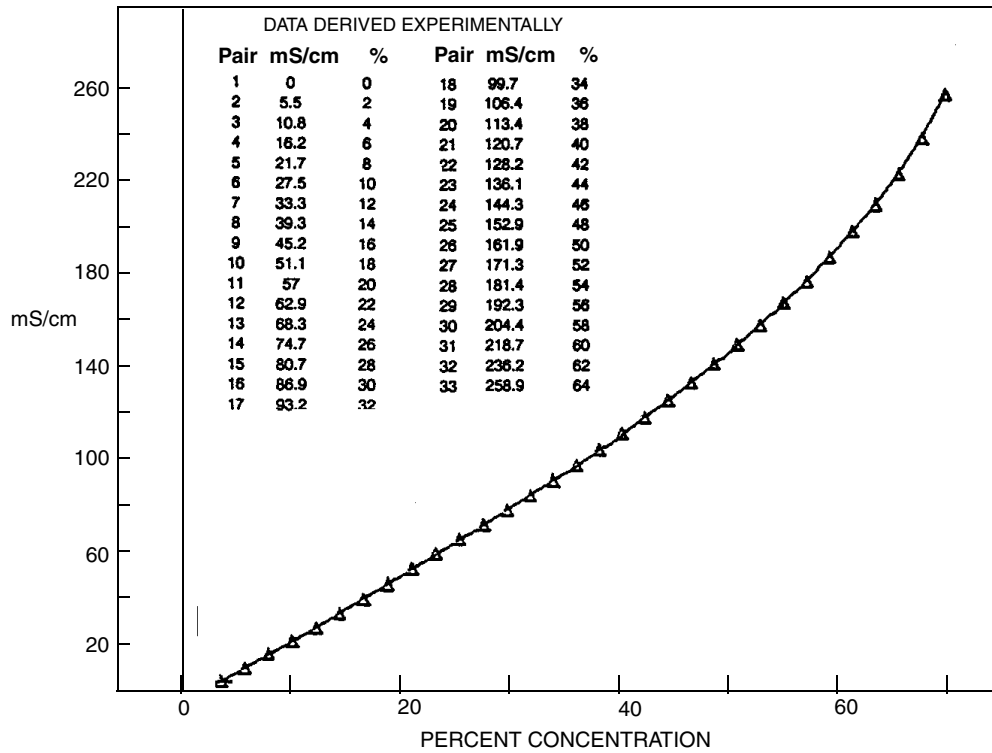

Figure 22. Initial Temperature vs. Conductivity Data
The control point of a process is 30%. The process typically runs at ambient temperatures which fall in the range of 15 to 35 °C. A sufficient grab sample of the process is taken and protected from the atmosphere. Using the EC sensor and 873EC analyzer in the absolute mode (Cd = 0000), conductivity versus temperature data is generated. Typical data results are shown in Figure 22.
- c. The maximum number of data pairs that may be entered is 25. See Figures 22 and 23 on page 63.